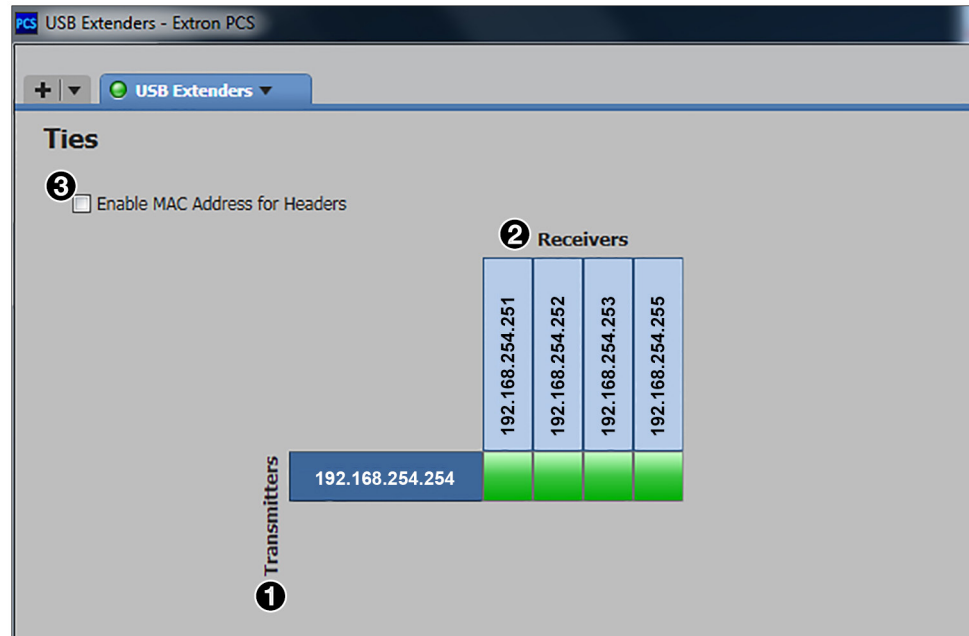

Figure 32. USB Extenders Ties Screen
3. Click **Connect** (2). The **Ties** screen opens (see figure 32 on page 32).